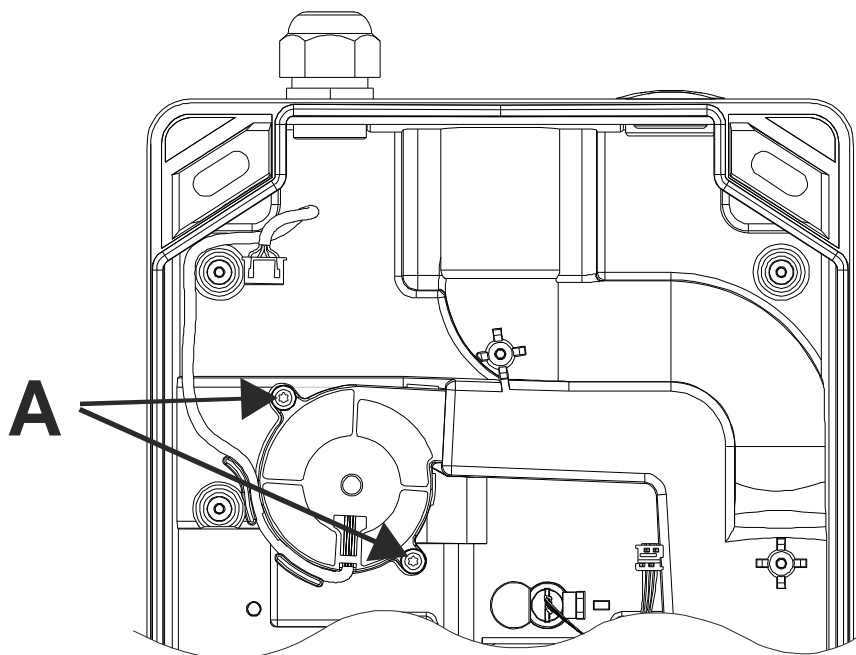

Fig. 51 Removing the aspirating fan unit
- Remove the two screws A of the aspirating fan unit with a Torx T15 screwdriver (see Fig. 51).